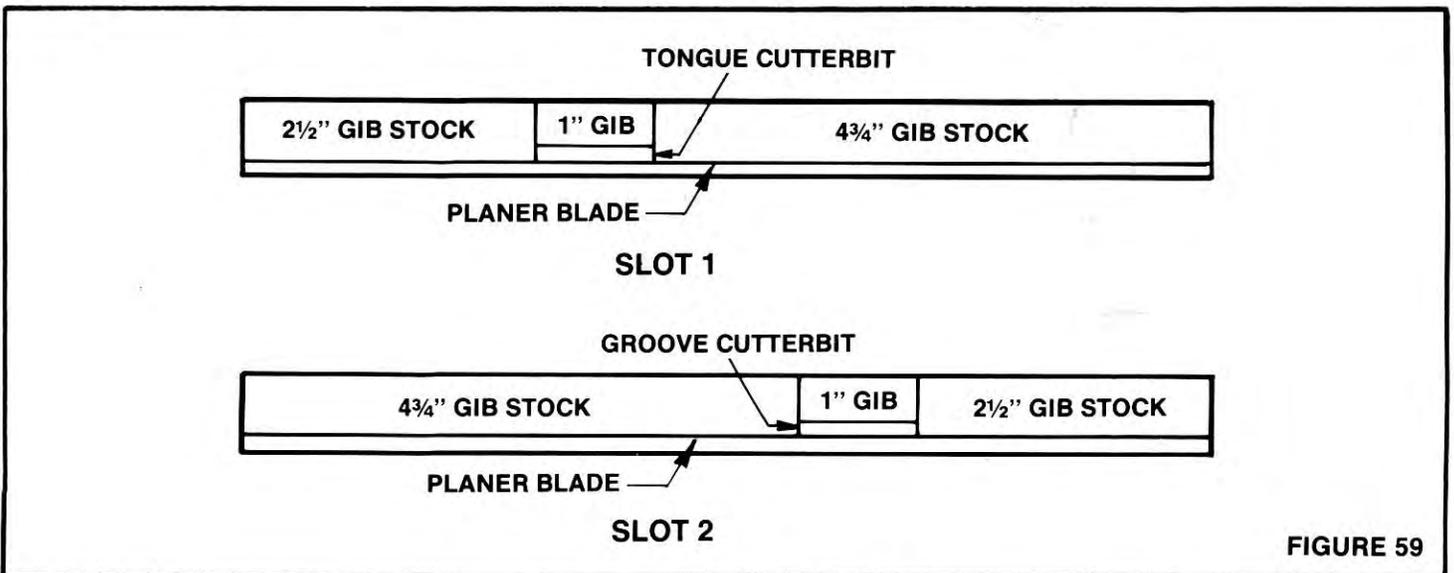

FIGURE 59
4. Reinstall 530365 aluminum gib, 1 inch gib and cutterbit, and planer blades. See example of typical tongue and groove set-up below. (See Figure 59)